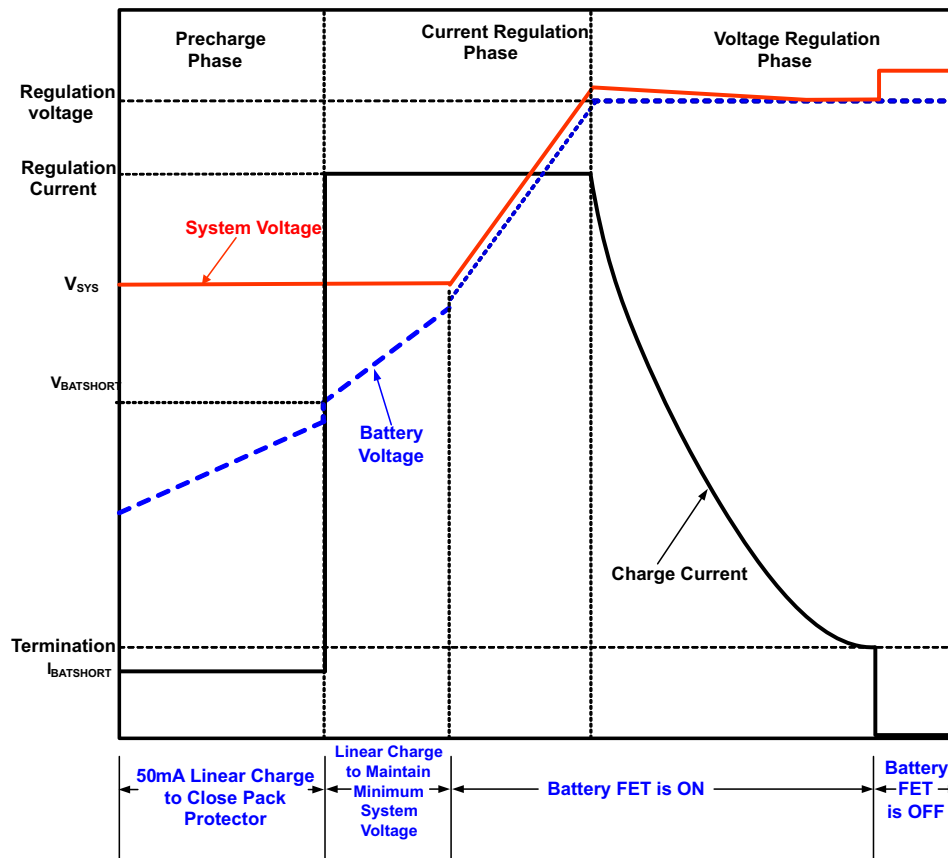

Figure 2. Typical Charging Profile of bq24278
Circuit of Figure 2, $V_{U_{VLO}} < V_{IN} < V_{OVP}$ AND $V_{IN} > V_{BAT} + V_{SLP}$, $T_J = 0^{\circ}\text{C} - 125^{\circ}\text{C}$ and $T_J = 25^{\circ}\text{C}$ for typical values (unless otherwise noted)
Charging is done through the internal battery MOSFET. When the battery voltage is above 3.5V, the system output (SYS) is connected to the battery to maximize the charging efficiency. There are 5 loops that influence the charge current; constant current loop (CC), constant voltage loop (CV), thermal regulation loop, minimum system voltage loop (MINSYS) and input voltage dynamic power management loop (V_{IN-DPM}). During the charging process, all five loops are enabled and the dominant one takes control. The bq24278 supports a precision Li-Ion or Li-Polymer charging system for single-cell applications. The minimum system output feature regulates the system voltage to a minimum of $V_{SYS(REG)}$, so that startup is enabled even for a missing or deeply discharged battery. Figure 2 shows a typical charge profile including the minimum system output voltage feature.
The charge current is regulated to I_{CHARGE} until the battery is charged to the regulation voltage. Once the battery voltage is close to the regulation voltage, $V_{BAT(REG)}$, the charge current is tapered down as shown in Figure 2 while the SYS output remains connected to the battery. The voltage regulation feedback occurs by monitoring the battery-pack voltage between the BAT and PGND pins.